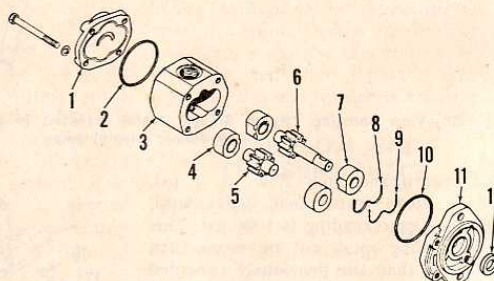

Fig. C11—Exploded view of typical Cessna hydraulic pump used on some model 224, 444 and 446 tractors.
OVERHAUL (CESSNA). To disassemble the pump, refer to Fig. C11 and scribe a line across covers (1 and 11) and body (5) for aid in reassembly. Remove capscrews from rear cover (1) and separate rear cover and seal ring (2) from pump body. Withdraw driven gear (4) and drive gear (3). Separate body (5) from front cover (11). Note position of small pressure vent hole in diaphragm (6), gaskets (7 and 8) and diaphragm seal (9) and place a mark on adjacent area on cover. Remove diaphragm, gaskets, diaphragm seal and seal ring (10) from cover. Inspect shaft oil seal (12) and if removal is necessary, heat front cover (11) to approximately 250°F. Then, pull oil seal straight out of cover.